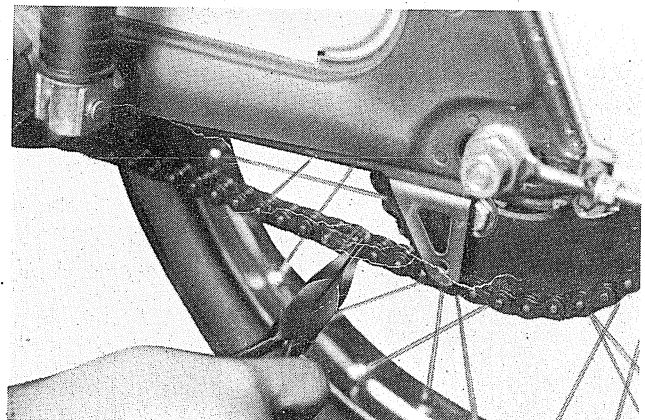

Fig. 3-1-11
8. Disconnect the chain case (lower), and remove the chain from the joint. (Fig. 3-1-11)